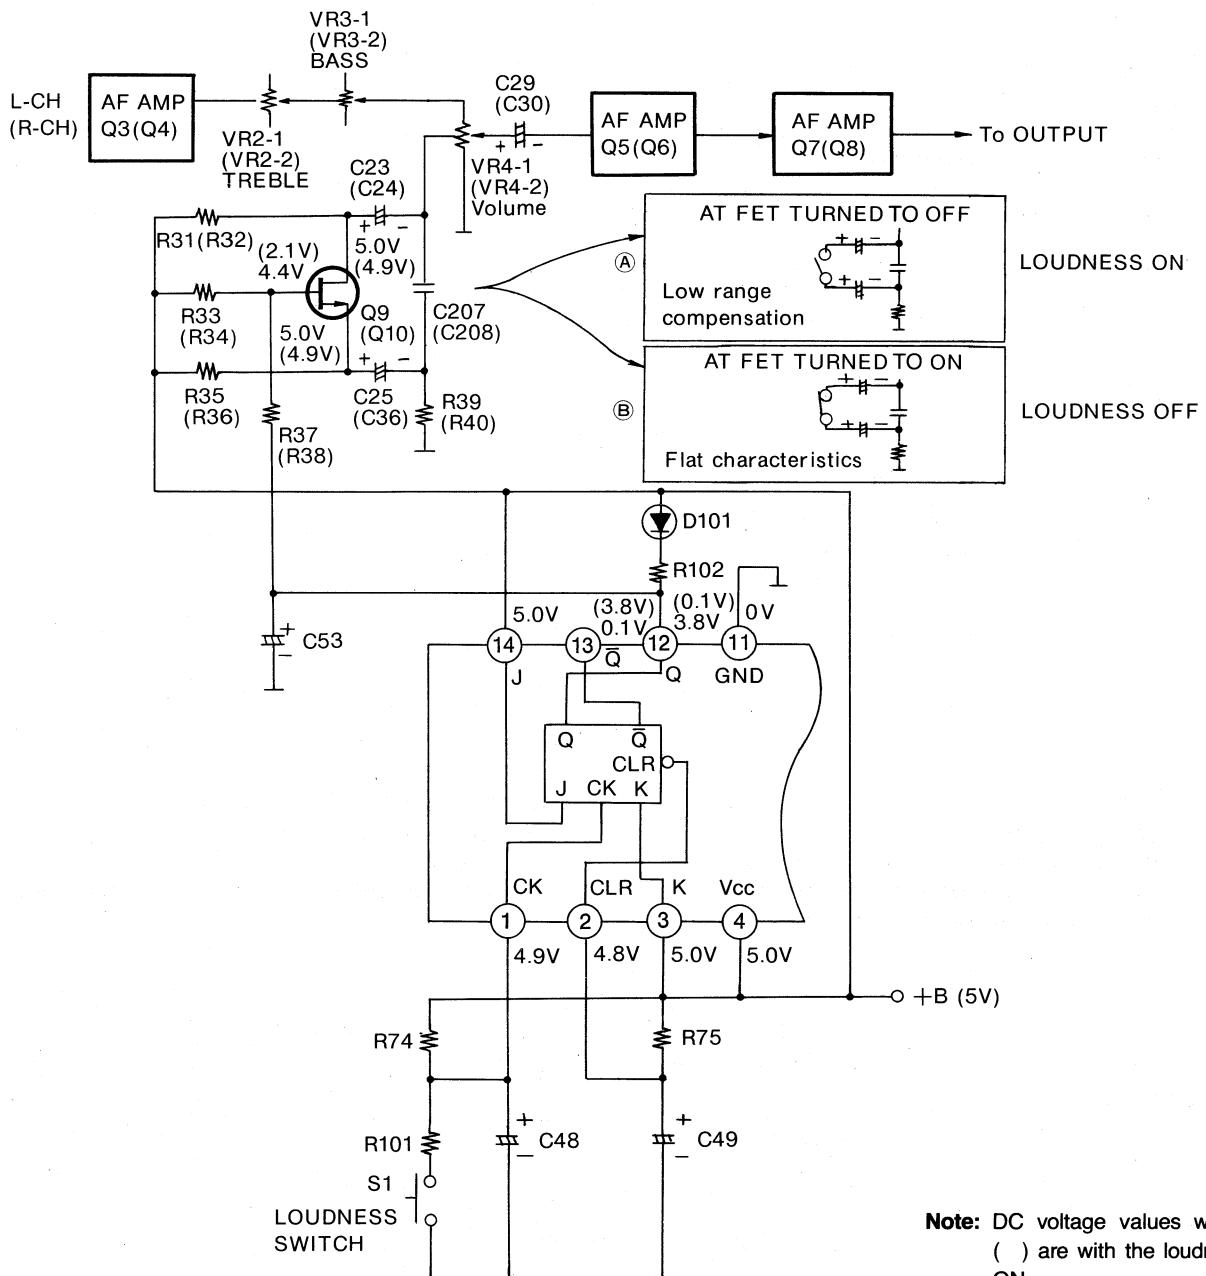

Fig. 34. Loudness-control circuitry-Preamp
1. In the circuit shown in figure 34, when the power source is turned on, the output "Q" of the J-K flip-flop becomes "L" therefore the gate voltage of the FET switch Q9 (Q10) becomes low level, and Q9 (Q10) is off at this time.
2. When Q9 (Q10) is off, the source-drain interval of Q9 (Q10) is opened, so it can be expressed by equivalent circuitry such as shown in Fig. 34 ④ .
- As can be seen in the circuit shown in Fig. 34 Ⓐ, the mid- and high range is decreased by C207 (C208) to the level set by R39 (R40), and, as a result, the low range becomes the increased frequency response.
- In the circuit shown in Fig. 34 Ⓑ, the electrostatic capacity of the electrolytic condenser is set very big compared to C207 (C208), and, for that reason, the AF signal frequency response becomes flat to the level determined by R39 (R40).